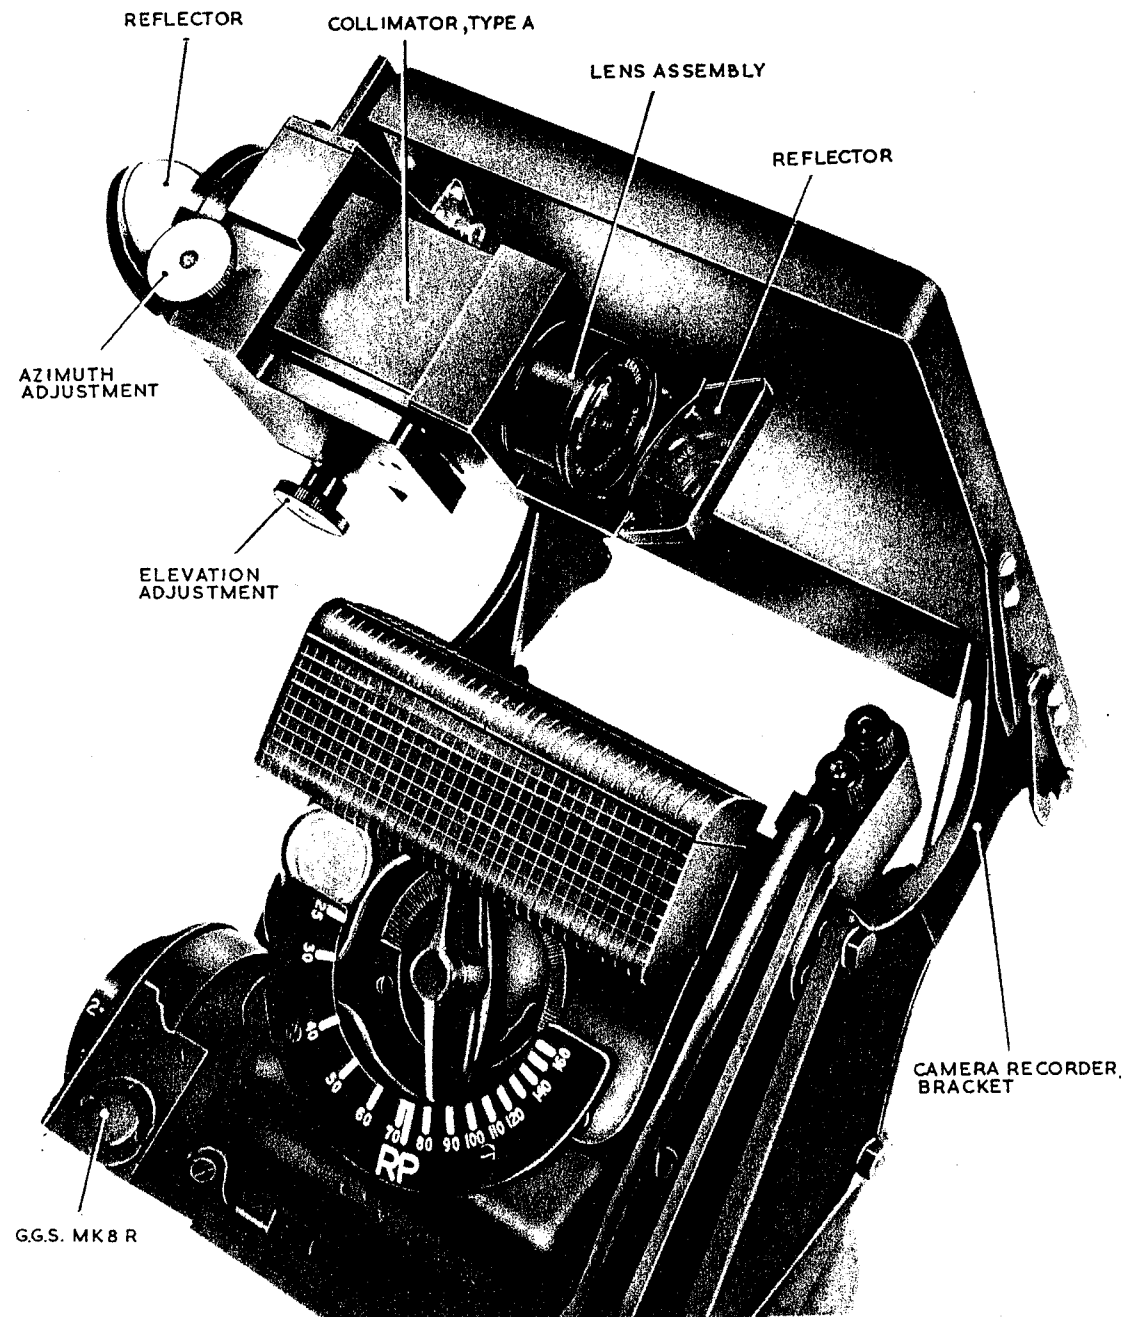

Fig.1 Collimator, Type A fixed to sighting head
(1) Fit the collimator, Type A to the camera recorder brackets (fig.1).